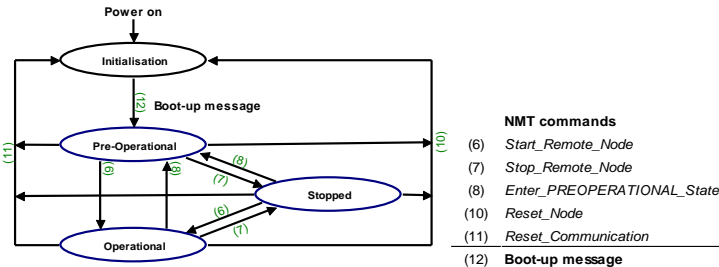

Figure 28: The NMT state machine
All sysWORXX I/O devices also support the NMT commands *Stop_Remote_Node* (7), *Enter_PRE-OPERATIONAL_State* (8), *Reset_Node* (10), *Reset_Communication* (11) to control state transitions (see *Figure 28* and *Table 46*).